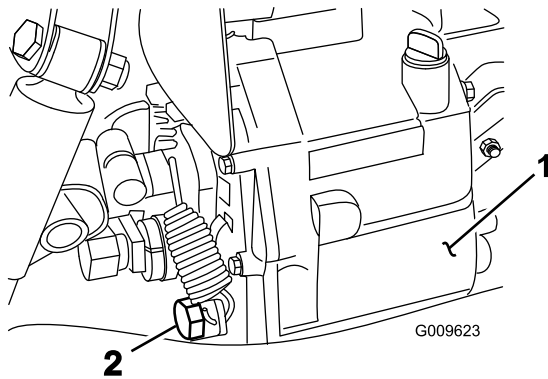

Figure 73
2. Remove the drain plug from the side of the reservoir, and let the hydraulic fluid flow into a drain pan (Figure 73).